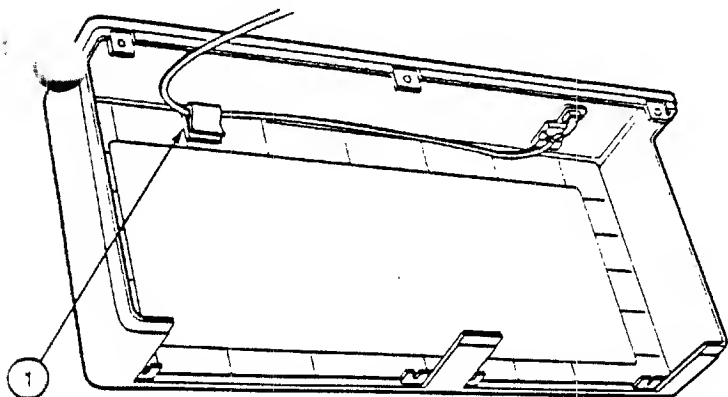
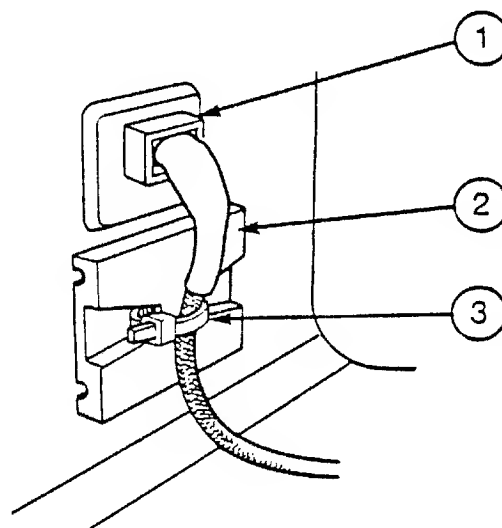

FIGURE 6
FIGURE 7
1. Remove the ProFile cover and disconnect the LED cable from the controller PCB. Lay the cover flat, as in Figure 6.
2. Cut off the white plastic tie (Figure 7, #3) that holds the LED cable to the white holder in the cover (Figure 7, #2).
3. Remove the other end of the LED cable from the other holder in the cover. (On some ProFiles, this holder will be a clamp like the one shown in Figure 6, #1; on others, it will be like the one shown in Figure 7.)
9. Push the cable clamp (Figure 7, #1) up to the cover until it holds the cable steady.
10. Place the LED cable against the white plastic holder and fasten it with a tie wrap (Figure 7, #2 and 3).
11. Place the cable in the other holder (Figure 6, #1), using a tie wrap if necessary. Cut off excess tie wrap.